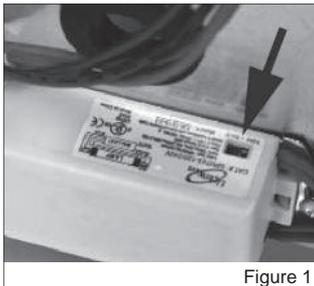
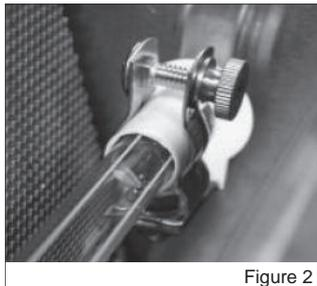

Figure 1
Figure 2
- A. The ballast is factory set to 120 VAC. The voltage can be changed in the field to 230 VAC by sliding the voltage selector switch to the 230 volt position (Figure 1). The plug must be replaced and wiring must be done to applicable electrical codes.
- B. Remove front electrical cover by removing (2) sheet metal screws on sides.
- F. Tighten lamp clip using the brass knurl. Make sure the lamp clip tightens around the plastic part of the lamp and not the glass (Figure 2).